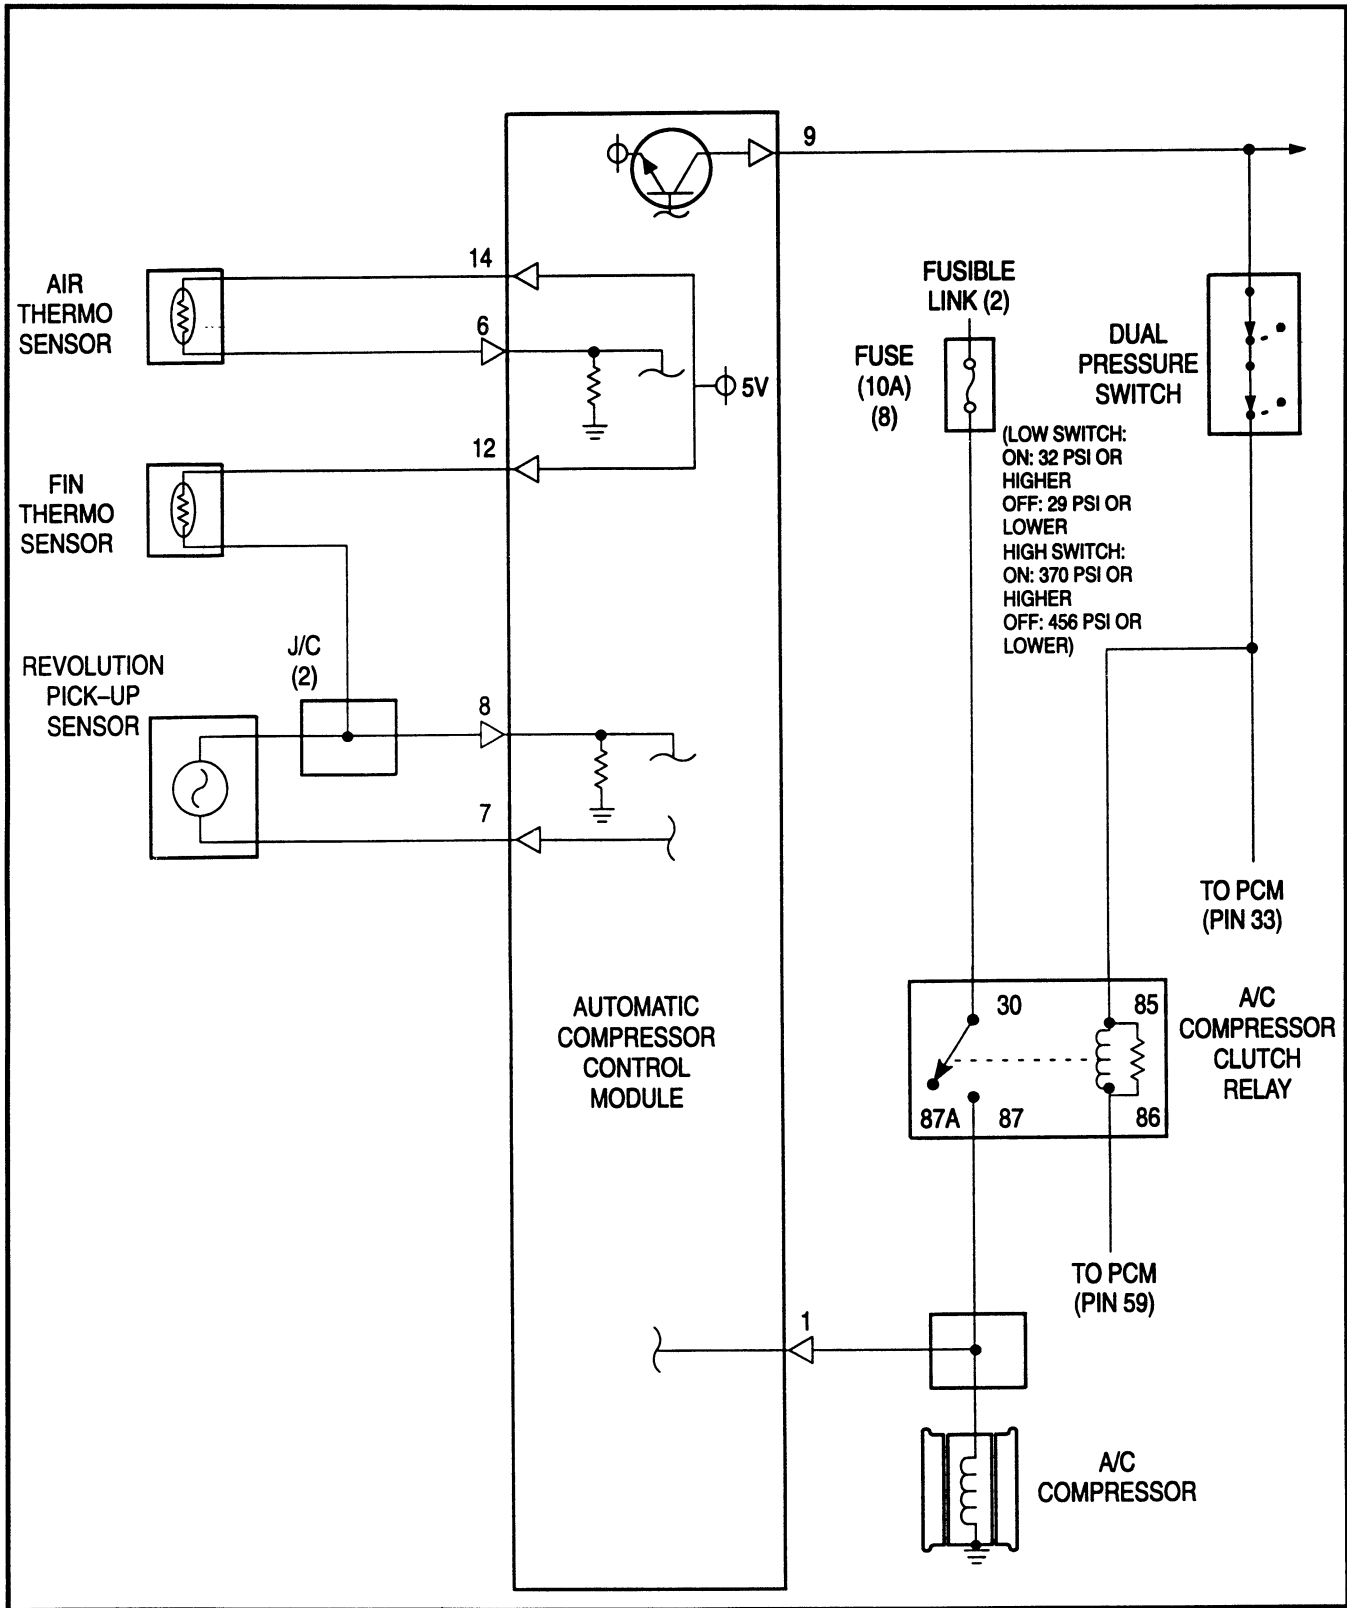
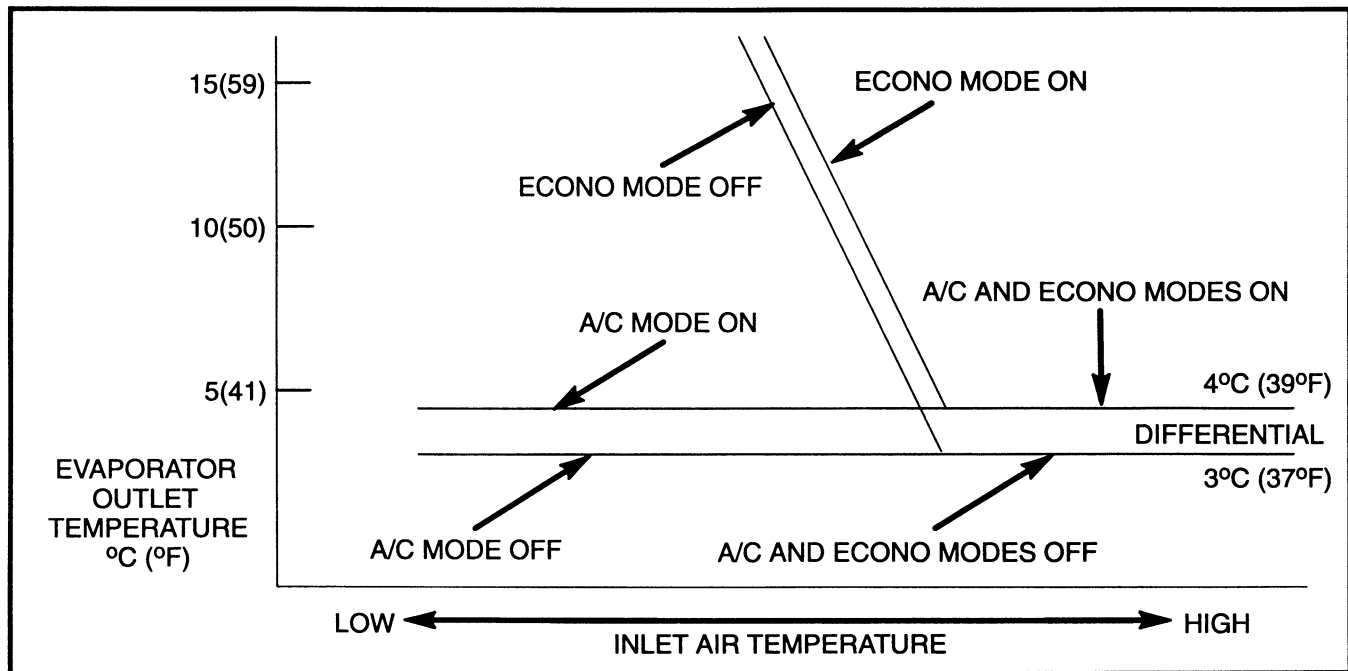

Figure 51 A/C Request Signal
Figure 52 A/C Compressor Cycling Parameters
- **Air Thermo Sensor** - The air thermo sensor is used as an ambient temperature input to the auto compressor control module (fig. 51). This input is used in conjunction with the fin thermo sensor to engage the compressor clutch at the appropriate temperature ranges. The auto compressor control module sends a 5-volt reference signal through terminal 14 to the air thermo sensor. The sensor return is sent through terminal six of the auto compressor control module. The sensors resistance changes with the temperature of the air thus causing a change in voltage at terminal 14 as temperature changes.
- **Fin Thermo Sensor** - The fin thermo sensor is used to identify the temperature of the evaporator (fig. 51). It is used in conjunction with the air thermo sensor to engage the compressor clutch at the appropriate temperature ranges. The auto compressor control module sends a 5-volt reference signal to the fin thermo sensor. The sensor return is sent through terminal eight of the auto compressor control module. As temperatures of the evaporator change, the resistance of the sensor changes, thus causing a change in voltage at the signal input to the auto compressor control module.
- **Revolution Pick-up Sensor** - The revolution pick-up sensor is used by the auto compressor control module to prevent the belt from slipping due to a compressor that seized (locked) up. The control module removes the A/C request signal from the PCM when a belt slipping rate of 70% or more is indicated. Terminals seven and eight are used as inputs to the auto compressor control module to identify compressor shaft speed (fig. 51).
The main output of the auto compressor control module is the A/C request signal (fig. 51). A signal is sent through terminal nine anytime that the auto compressor control module requires the compressor to be engaged. The request signal is ON as long as A/C has been selected, and the air thermo sensor and the fin thermo sensor are indicating temperatures within the parameters as indicated in figure 52. Also, the compressor revolution sensor cannot be indicating that the belt is slipping.